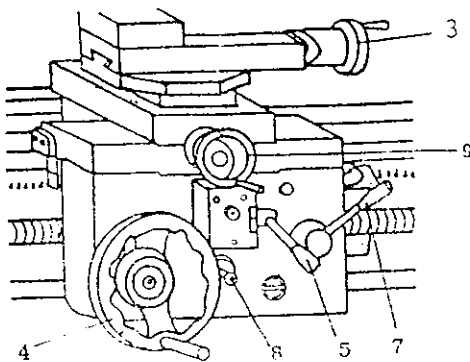

FIG. 11
- (4). PUSH DOWN THE AUTO-FEEDING SELECTOR (5 IN FIG. 11), THE MACHINE WILL HAVE A CROSS AUTOMATICALLY FEEDING. PULL THE LEVER (5 IN FIG. 11) UP, THE MACHINE WILL HAVE A LONGITUDINAL AUTOMATICALLY FEEDING.
IF YOU WANT TO FEED BY HAND, JUST PUT ALL THE LEVER BACK TO THE ORIGINAL POSITION, THE MACHINE IS NOW UNDER HAND WHEEL CONTROL. TURN THE HAND WHEEL (4 IN FIG. 11) AND MACHINE CAN MAKE THE LONGITUDINAL FEEDING.
- (1). MOVE SADDLE BY HANDLE WHEEL (9 IN FIG. 11).
- (2). CROSS MOVEMENT OF THE TOOL POST IS ACCOMPLISHED BY TURNING THE HANDLE (3 IN FIG. 11). THE TOOL POST WILL MOVE TOWARDS THE CENTER WHEN TURNING THE HANDLE CLOCKWISE.
- (3). BOTH THE CROSS-SLIDE AND COMPOUND SLIDE CAN BE LOCKED.
HERE IS A FEED OVERLOAD CLUTCH IN THE APRON WHICH IS ADJUSTED BY TURNING THE ADJUSTMENT SCREW (8 IN FIG. 11) CLOCKWISE IF THE SADDLE OR CROSS-SLIDE STOPS WHILE TAKING A CUT. CARE MUST BE TAKEN NOT TO OVERTIGHTEN THIS SAFETY DEVICE AS YOU WILL NOT HAVE AN OVERLOAD PROTECTION.